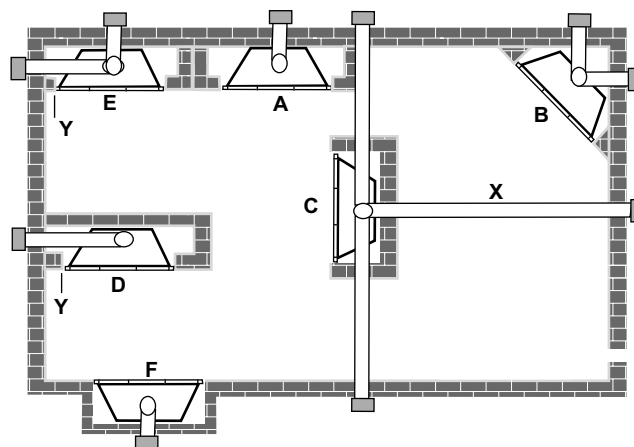

Figure 5 - Locating Gas Fireplace
- This fireplace may be installed along a wall, across a corner, or use an exterior chase. See *Figure 5* for suggested locations.